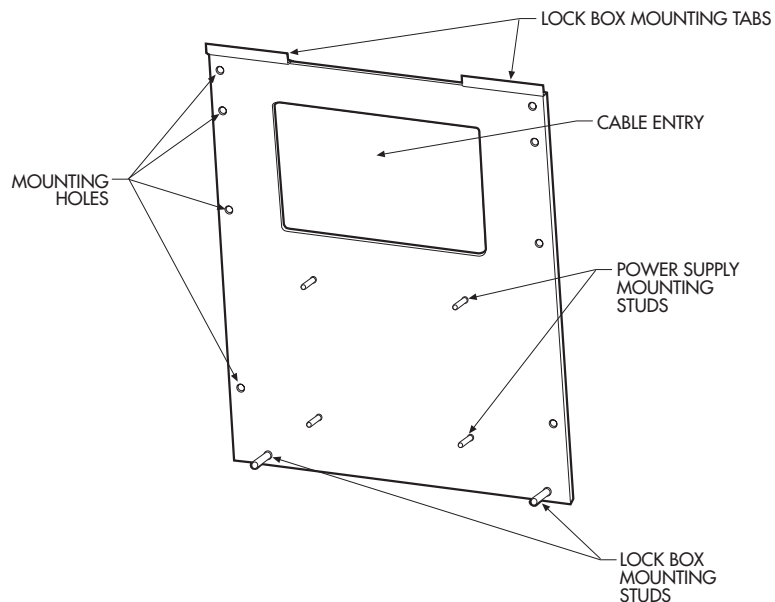

Figure 2. Mounting Plate
3. Reach inside the lock box and remove the two nuts from the mounting studs on the bottom of the rear mounting plate (refer to Figure 2).
5. Place the mounting plate against the wall and mark the eight holes for attaching the lock box to the wall. The mounting holes on each side of the plate are spaced 16 inches apart so the plate can be fastened to standard wall studs. Also outline the cable entry opening. Refer to Figure 2.
11. Fasten the lock box to the mounting plate (refer to Figure 2). Place the top, back side of the lock box over the mounting tabs on the top of the mounting plate. Open the lock box door and make sure the mounting studs in the bottom of the mounting plate go through the stud holes in the bottom of the lock box. Replace the nuts removed in step 3.
1. Fasten the power supply to the mounting plate with the supplied lock washers and nuts (refer to Figure 2).